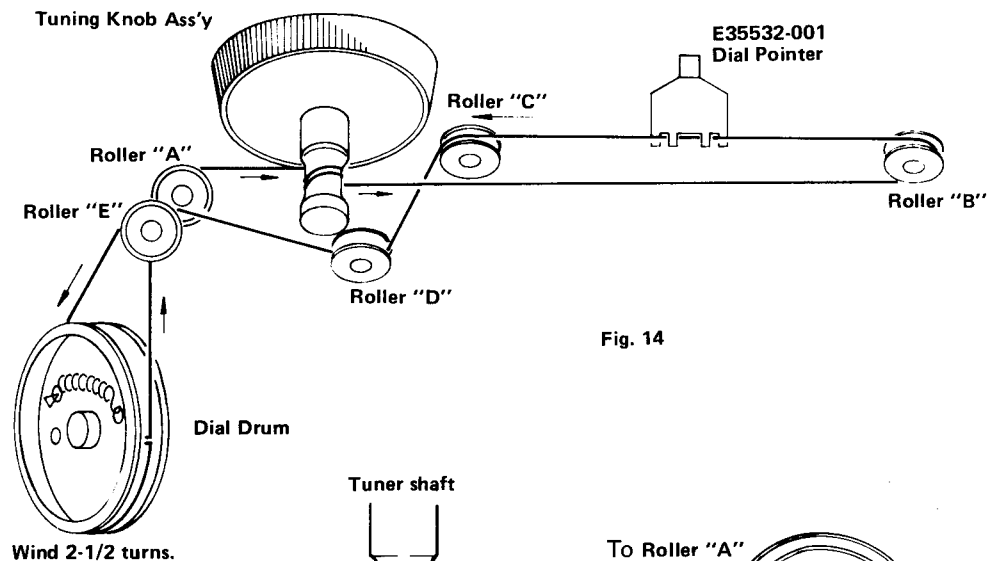

Fig. 14
11. Place the dial cord over and under the tabs on the rear of the dial pointer and place the dial pointer on the top of the dial panel rail. See Fig. 14.
12. Turn the tuning shaft clockwise. Slide the dial pointer to ZERO (0) calibration marker on the logging scale while holding tuning shaft fully clockwise. Cement the dial pointer to dial cord to prevent slippage. Allow cement to dry thoroughly.